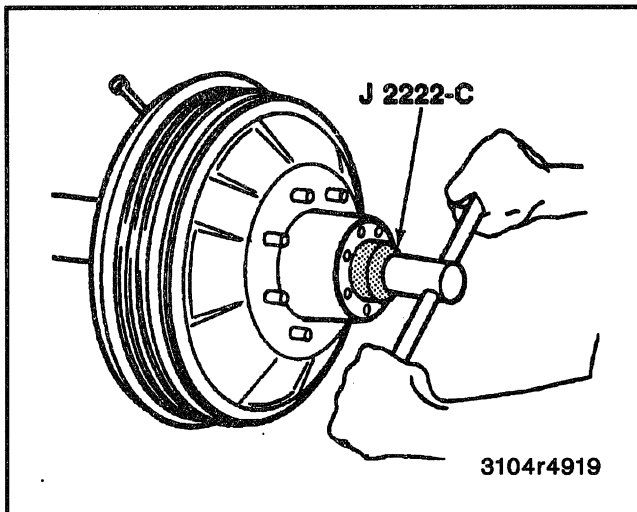

Figure 28—Removing or Installing Bearing Adjusting Nut
- 3. Nut using J 2222-C, or retaining ring. Refer to Figure 28.
- 5. Adjusting nut. Refer to Figure 28.
3. Adjusting nut. Refer to Figure 28.